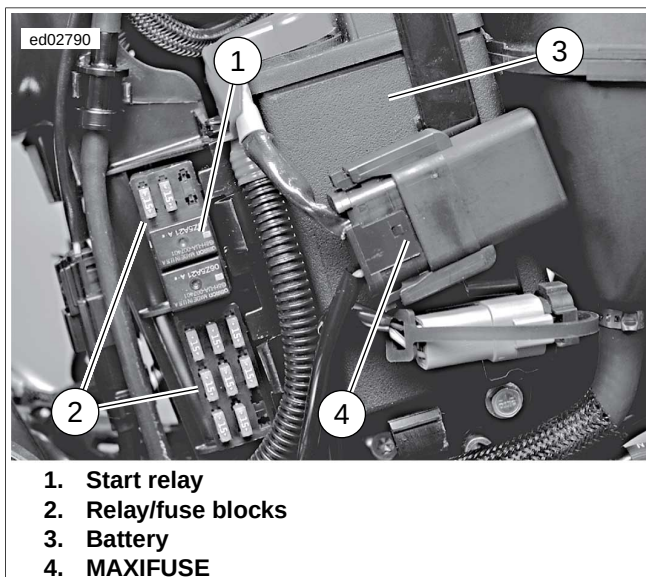

Figure 1-4. Start Relay (Typical)
2. See Figure 1-4. Locate start relay (1) in relay/fuse block (2) forward of battery (3) on motorcycle's left side.
- a. See Figure 1-4. Unplug start relay (1) from relay/fuse block (2).